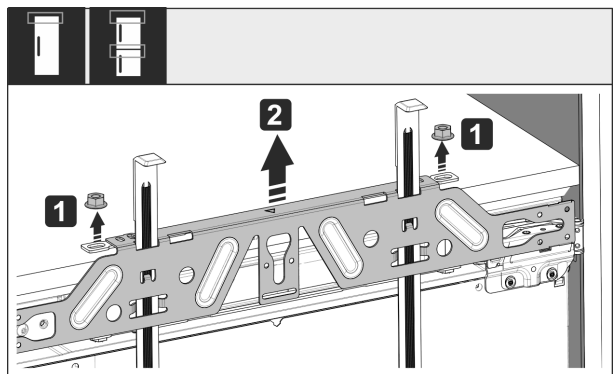

Fig. 53
- ▶ Loosen locknuts Fig. 53 (1).
- ▶ Remove crosspiece Fig. 53 (2).